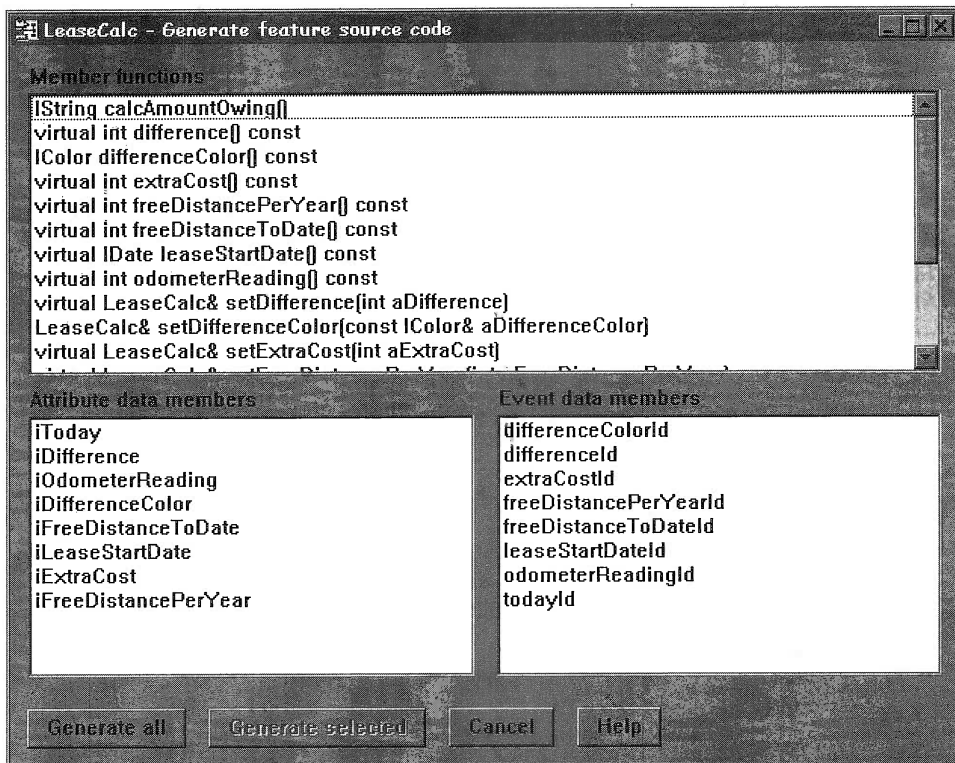

Figure 156: Generate All feature code for LeaseCalc
- ☐ Generate the feature source by selecting **File, Save and Generate, Feature source...** as seen in Figure 156.